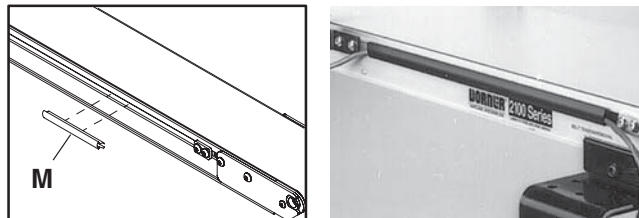

Figure 13
2. To contain a long run of wiring cable in the conveyor T-slot channel, use several short lengths of T-slot Cover Strips (Figure 13, item M). Or, to completely contain a long run of cable, purchase T-slot Cover Strip (645656P) at length required.